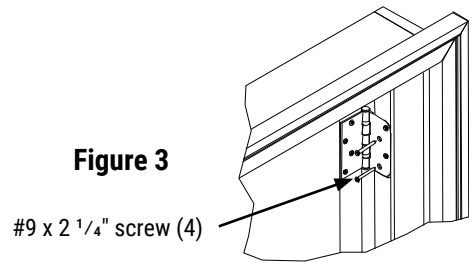

Figure 3
**3** For doors such as single and french doors that are hinged next to the wall opening, predrill 7/64" holes and install 2 screws at the location shown in **Figure 3** on the top hinge and 1 each on the middle and bottom hinge (screws included in installation kit).